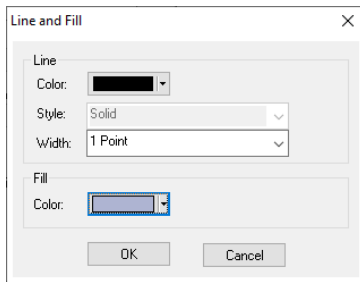

Figure 2.41: Setting line and fill properties
- 5 Click **Format** and select *Line and Fill* to edit line and fill properties on the **Line and Fill** window (Figure 2.41).